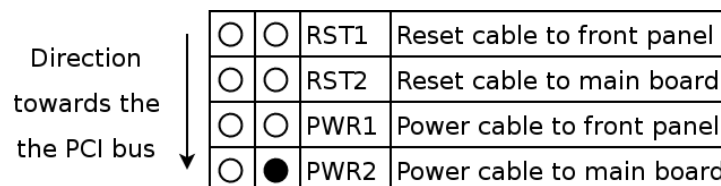

Figure 3-3. eRIC II reset/power connection pinout
Additional cables are required in order to enable the remote reset and the remote power functions of the eRIC II . The reset/power switch has the pin assignment as shown in Figure 3-3 .
2. Disconnect this cable from the motherboard and connect it to RST2 of the eRIC II . Refer to Figure 3-3 for pin assignment.
4. Disconnect this cable from the motherboard and connect it to PWR2. For pin assignment details, refer to Figure 3-3 .